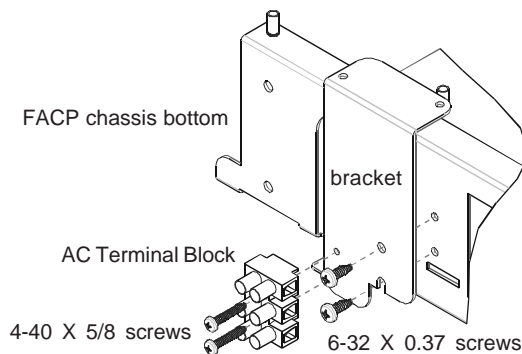

Figure 1: AC Terminal Block Installation
1. Attach the supplied AC Terminal Block to the metal bracket using the two supplied 4-40 X 5/8 screws as illustrated in Figure 1.
2. Attach the metal bracket to the lower-left bottom of the FACP chassis, near the transformer, using the two supplied 6-32 X .37 screws as illustrated in Figure 1.